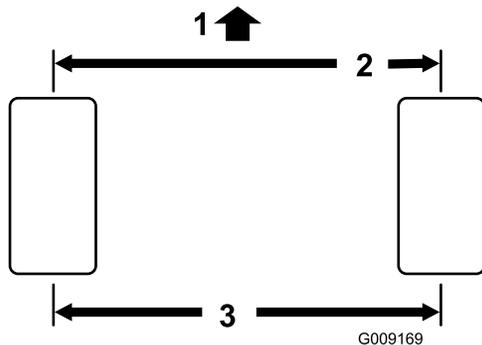

Figure 47
1. Measure the center-to-center distance (at axle height) at the front and rear of the steering tires. The front measurement must be 1/8 in. (3 mm) less than the rear measurement (Figure 47).